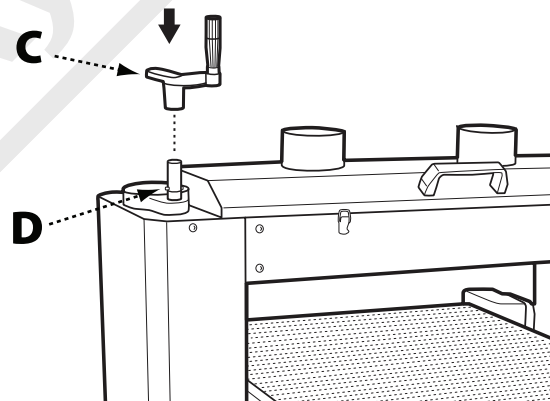

FIG. 3
1. Install the table elevation crank (C) by aligning the groove in the bottom of the crank with the pin located on the shaft (D). See Fig. 3.